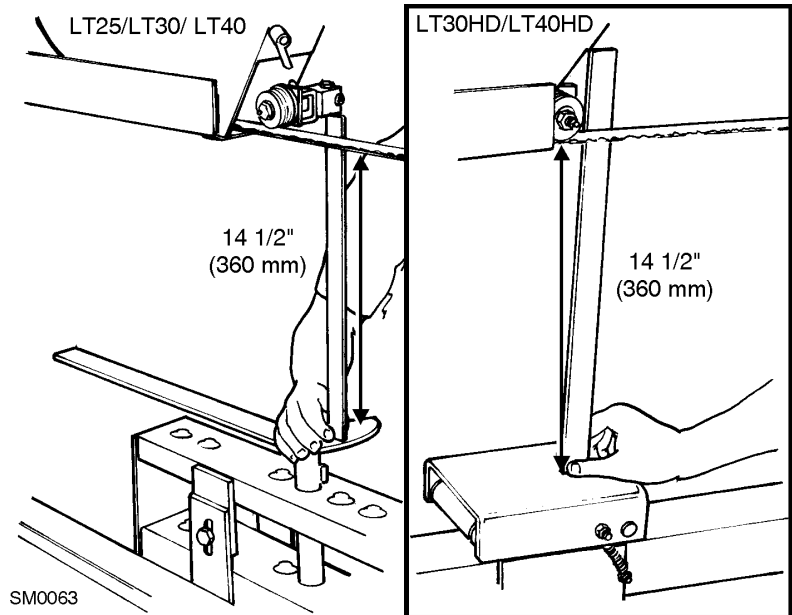

FIG. 5-6
3. Raise the saw head until the blade measures 14 1/2" (360 mm) from the top of the clamp. Use a rule to determine the actual distance of the blade to the clamp. **See Figure 5-6.**